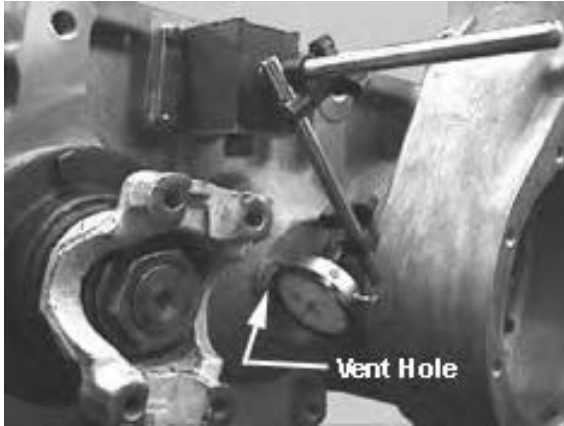

Fig. 71.
28. Check the intermediate shaft end float using a dial indicator through the vent hole in the front of the case. Pry the shaft toward the rear of the case to seat the bearing. Zero the indicator and then pry the shaft forward. The endplay should be .003 in. **tight** to .003 in. **loose** (see page 8). If the endplay is not within specification the rear carrier and intermediate shaft rear bearing cup will need to be removed and shims of the proper thickness inserted behind the bearing cup. See Figs. 71 & 72.